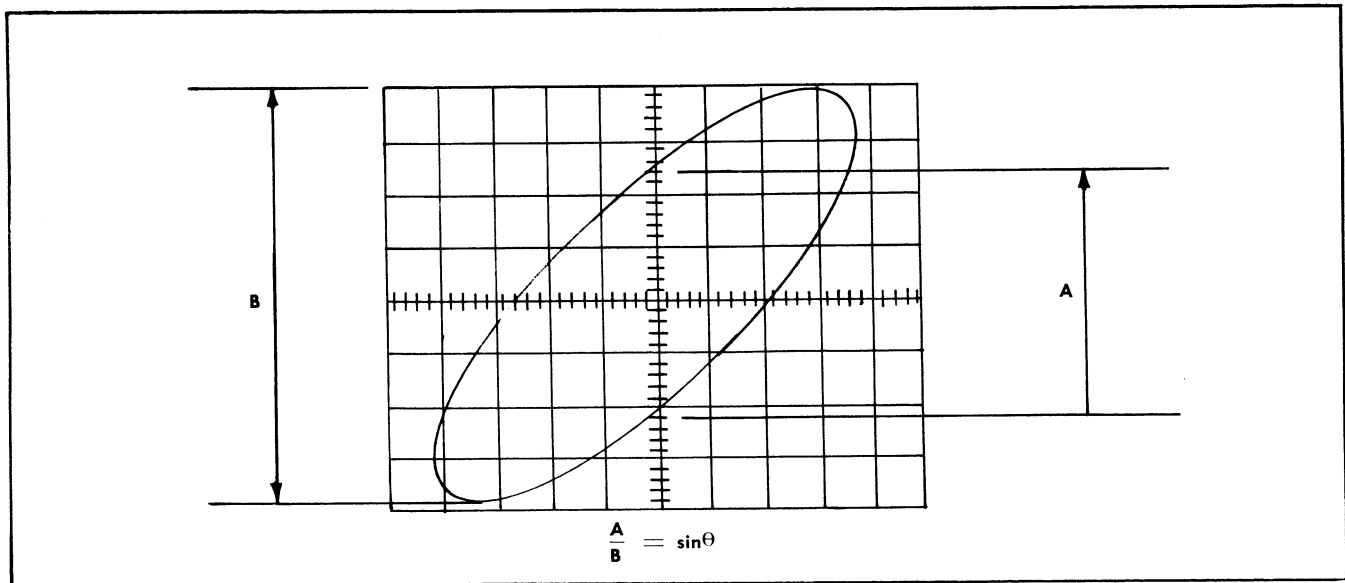

Fig. 3-2. X-Y method of calculating phase difference (θ) between two sine-waves.
9. Measure the distance of A and B on the display as shown in Fig. 3-2. A divided by B equals the sine of the phase angle between the two sine waves.